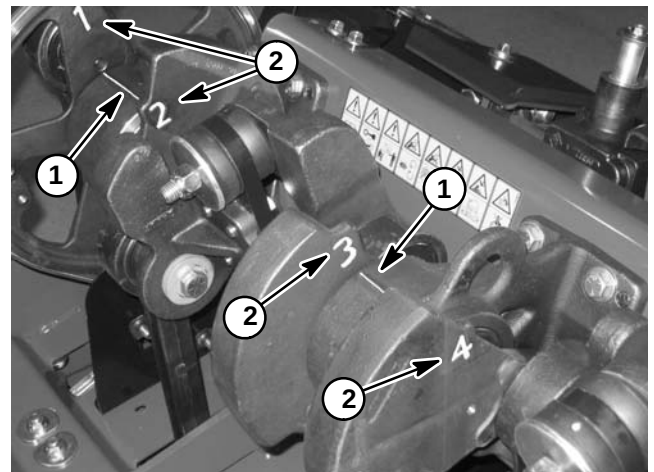

Figure 19
5. Drive spring pins (item 11) from bearing housing and coring head frame.
A. Remove cap screw (item 1) and flat washer (item 2) that fasten crankarms together. Take note of alignment of crankarm identification number with timing mark on bearing housing (Fig. 19).
3. Install crankarms into bearing housing. Make sure that correct identification number on crankarm is aligned with timing mark on bearing housing (Fig. 19).
4. Install cap screw (item 1) and flat washer (item 2) to retain crankarms. Do not fully tighten cap screw.
5. Drive new spring pins (item 11) into coring head frame holes.
7. Secure bearing housing to frame with four (4) cap screws, eight (8) hardened washers and four (4) lock nuts. Torque fasteners from **70 to 80 ft-lb (95 to 108 N-m)**.
9. Make sure that when #1 crankarm (at pulley) is aligned with cast mark on bearing housing, all subsequent crankarm cast timing numbers are in numerical order (Fig. 19).